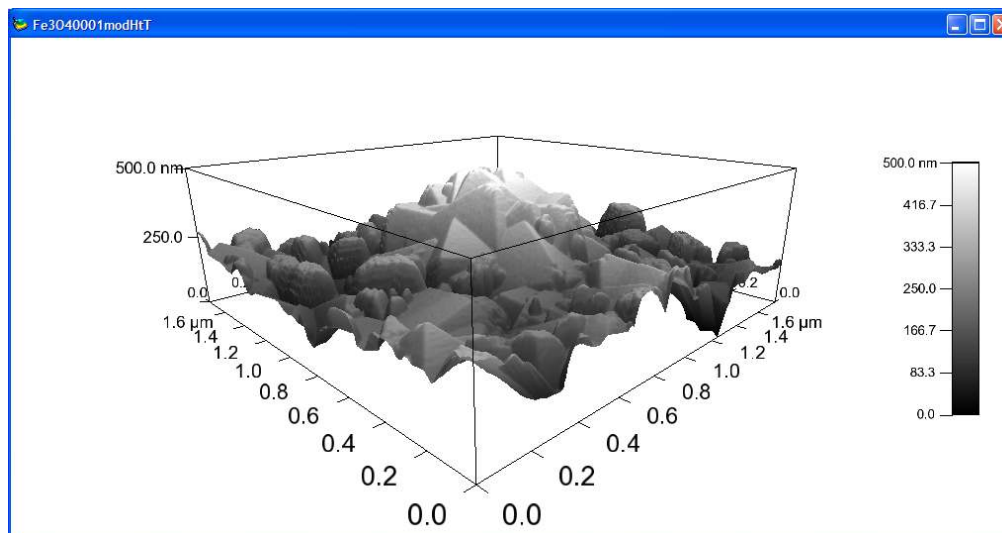

Figure 3.1.: Typical ARgyle window when it first opens.
3. A 3D rendered image will now appear in a new window screen. Figure 3.1 on page 99 shows a typical example. The data is scaled in a box of aspect ratio 3 to 1. The color bar corresponds to the total range of the Z axis.